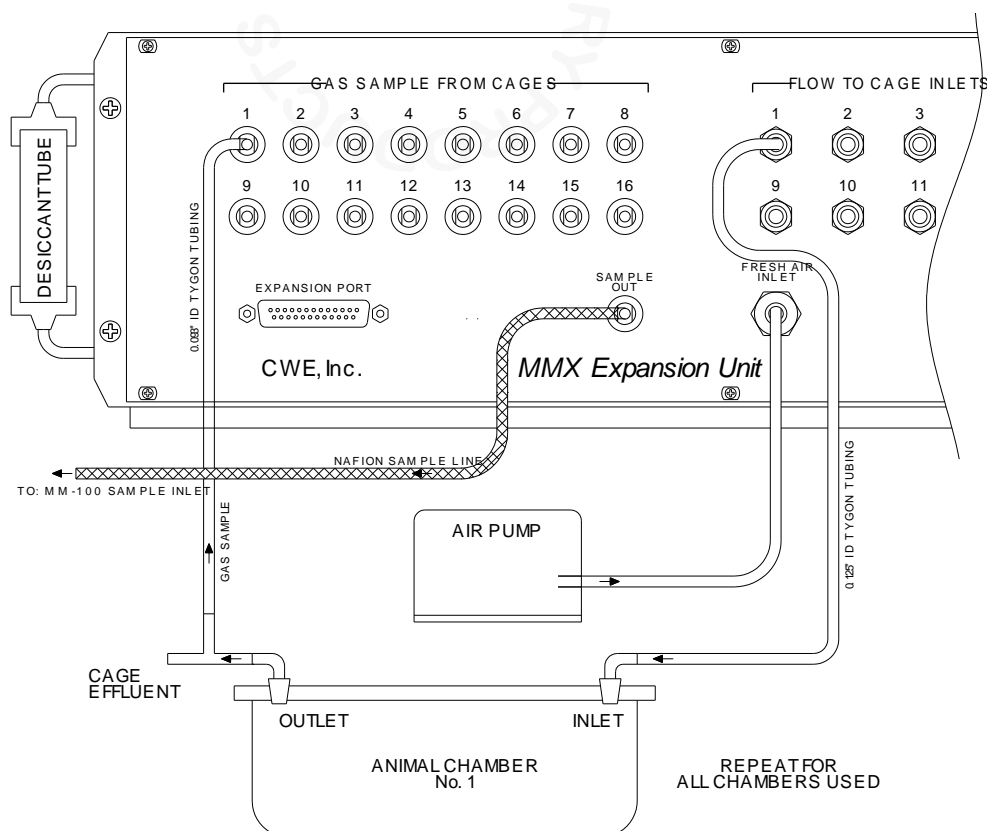

Figure 5: Expansion unit (MMX-16 shown) tubing connection diagram
3. Connect the cage airflow tubing and sample tubing between the MMX and the measurement chambers as shown in Figure 5. Repeat for all the measurement chambers being used.